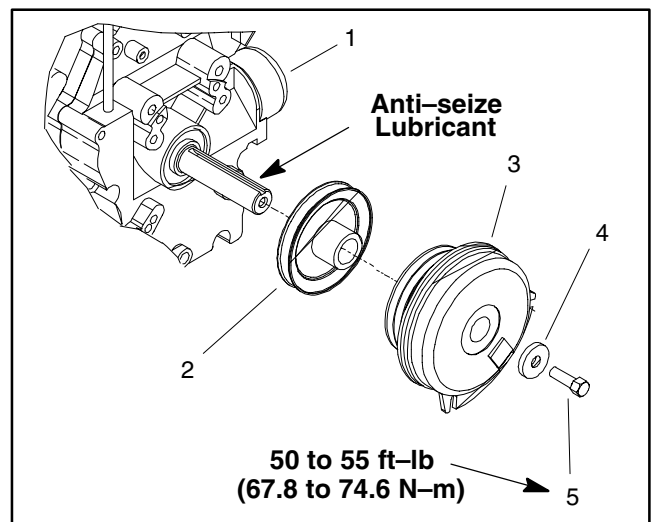

Figure 11
11. If needed, remove electric clutch (see Electric Clutch in the Service and Repairs section of Chapter 5 – Electrical System) and hydraulic pump drive pulley from engine (Fig. 11).
3. If electric clutch and hydraulic pump drive pulley were removed from engine crankshaft (Fig. 11):